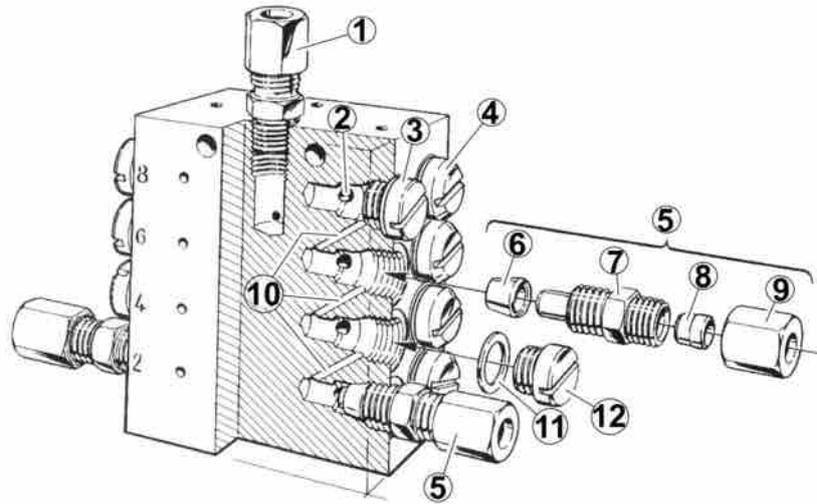

Fig. 26 - Outlet couplings and plugs
- Set a complete outlet coupling in each output that is to be used. See Fig. 26 and 27.
- The plug (4) that sits at the piston is recognisable by its bevelled edge. It must **never** be unscrewed.
- **Never** replace plug (12) with plug (4).